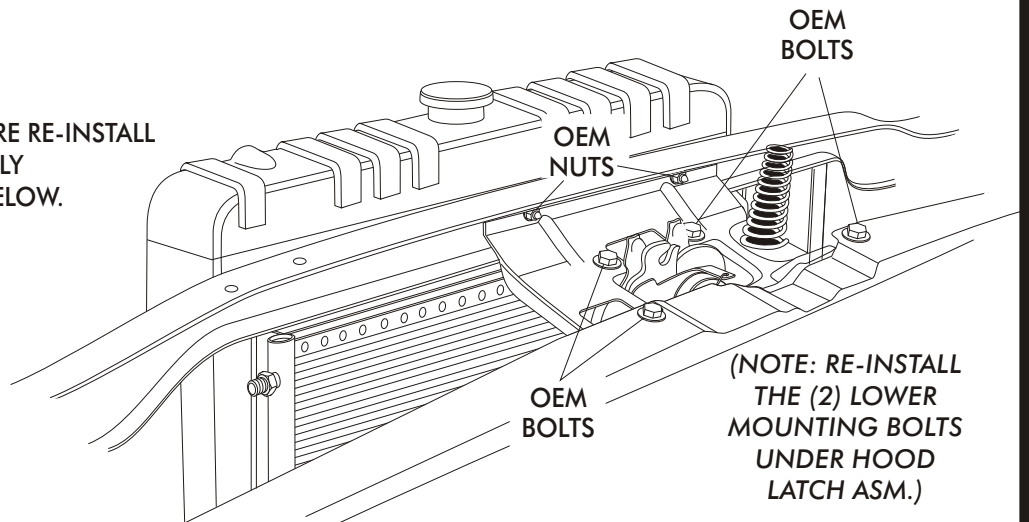

FIGURE 5
- USING THE OEM HARDWARE RE-INSTALL THE HOOD LATCH ASSEMBLY AS SHOWN IN FIGURE 5 BELOW.